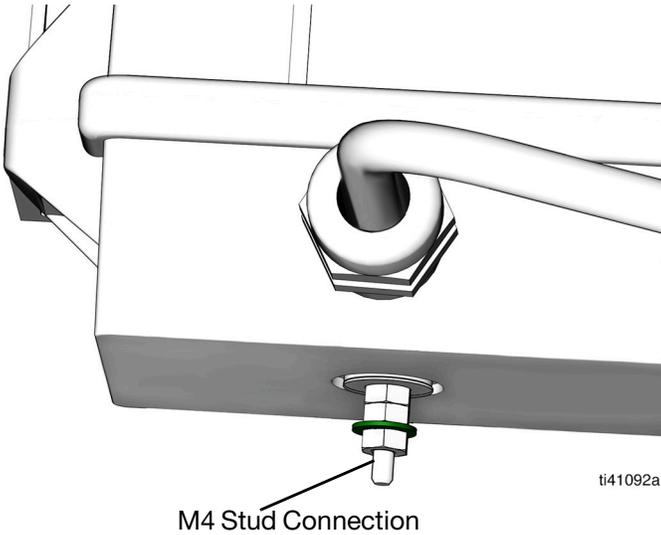

FIG. 4
- For ATEX or hazardous (classified) locations, connect a grounding wire between the M4 stud and the chassis ground of the tank. This provides equipotential grounding of the pressure sensor housing.(FIG. 4).